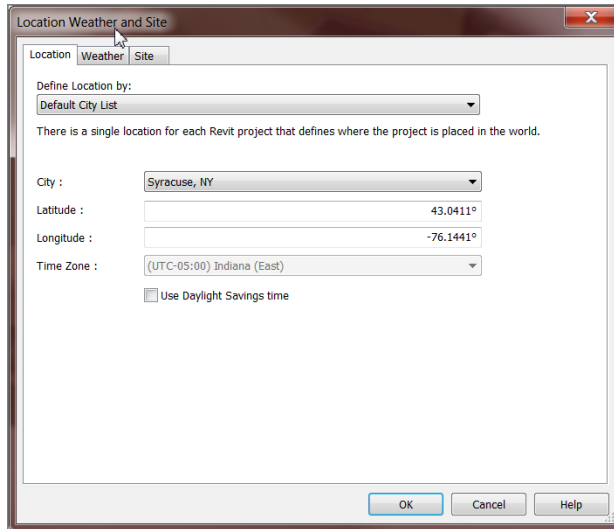

FIGURE 18.27: Setting the site
13. Using the Internet Mapping Service, set the location for Syracuse, NY USA (see Figure 18.27). You can also use your own location.